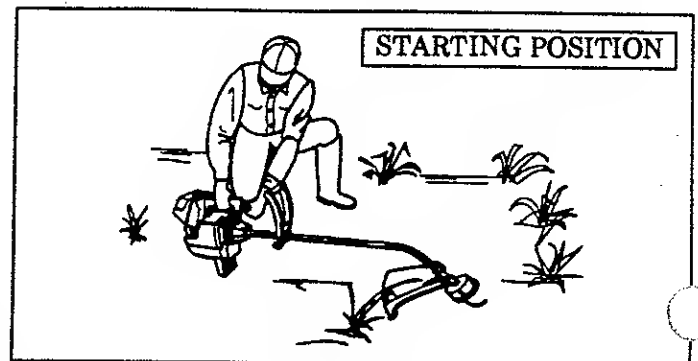

Figure 8
- Extend line approximately 6 inches from Trimmer Head to provide adequate load on engine. Figure 8.
- Rest Engine and Shield on ground, supporting Trimmer Head off ground away from trees, bushes, onlookers, etc. Figure 8.